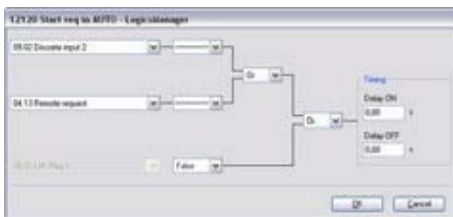

Fig. 159: LogicsManager function "Start req in AUTO"
2. ➤ Configure the LogicsManager function "Start req in AUTO" as shown in (Fig. 159) to start the generator in Automatic operating mode if discrete input [DI 02] ("09.02 Discrete input 2") is energized or a remote start request ("04.13 Remote request" = start via interface) is issued.